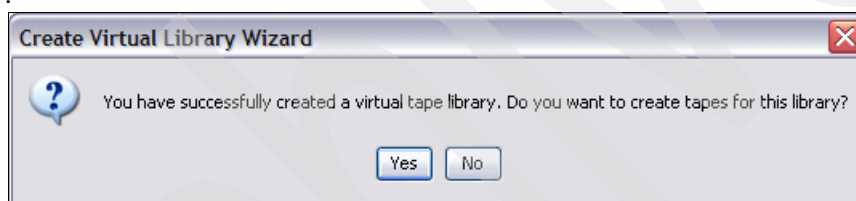

Figure 5-41 Create tape volume wizard
8. After you create the virtual library, you are asked to create tapes for the virtual tape library just created, as shown in Figure 5-41. Then you can create virtual volumes.